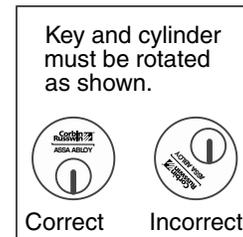

Figure 12
- Cylinder must be oriented correctly. (Figure 12)